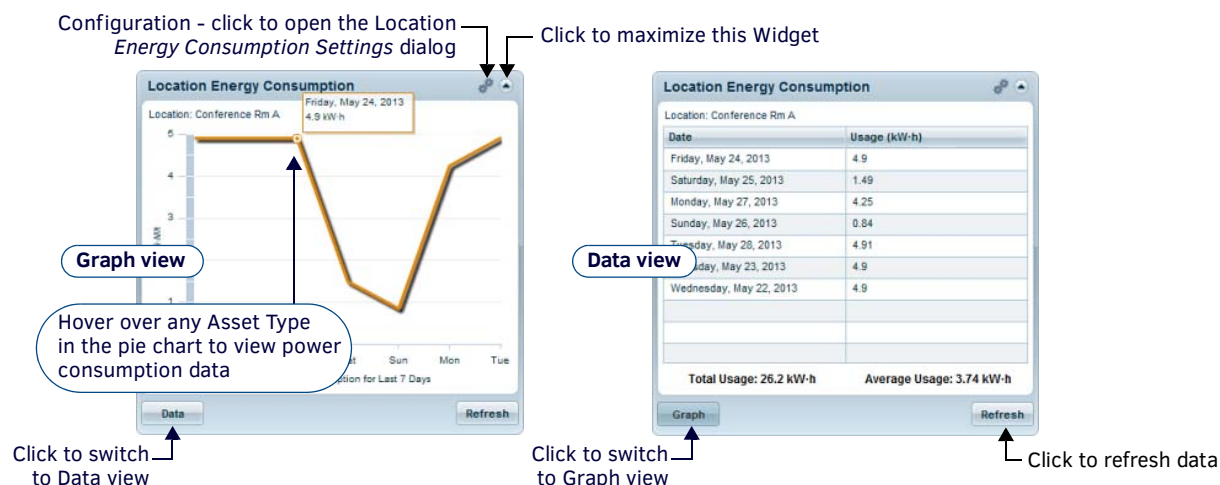

FIG. 125 Location Energy Consumption Widget
The *Location Energy Consumption* widget displays a cumulative listing of the energy usage in the selected Location, according to the selected time interval. There are two views available for this widget: *Graph* and *Data*. Click the **Graph/Data** button to toggle the view (FIG. 125).
1. Click the *Configuration* button in the upper-right corner of the widget's title bar (see FIG. 125 on page 79) to access the *Location Energy Consumption Settings* dialog. Note that by default, **Show Dashboard selected location** is selected.